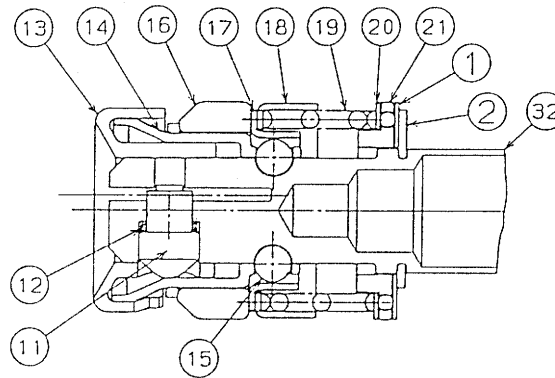

Fig. 15
(3) Reassembly of the blade mounting section (Figs. 15, 16 and 17)
Apply Doubrex 251 grease to the inner circumference of Holder Sleeve (B) [14] and the cam groove of Plunger (A) Set [32]. Mount Washer (E) [1], Thrust Bearing [21], Washer (D) [20], Spring (A) [19], Dust Washer [18], Guide Washer [17], Holder Sleeve (C) [16], Holder Sleeve (B) [14] and Holder Sleeve (A) [13] in the Plunger (A) Set [32] through the tip in order (Fig. 15).